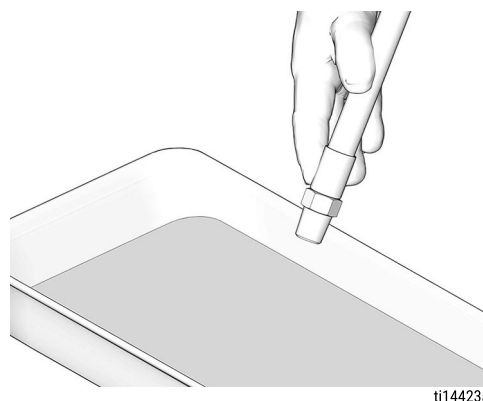

FIG. 1
1. Place the end of the hose into a grounded metal waste container. Hold the hose firmly against the waste container throughout the flushing process (FIG. 1).